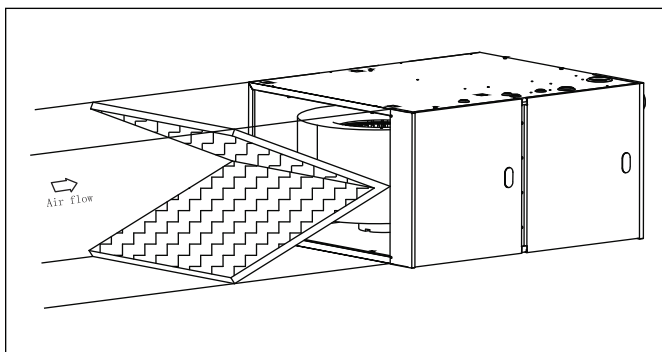

Figure 19
- In this installation, hoses connecting between ports of overflow protection pressure switch (overflow switch) and pressure tabs on the condensate collector box **MUST** be switched. The overflow switch has two ports, which is different from two other regular pressure switches that have only one port. Make sure that black port (positive) is connected to the lower position tap on condensate collector box and gray port (negative) to higher tap of condensate box. Connecting incorrectly will result in failure to protect condensate overflow. See Fig. 19.
- ▶ If disposable filters are used, air passage through filters should be increased to twice the size of original air opening by using a transition duct or using two filters in V shape (see Fig. 19) in normal duct size.